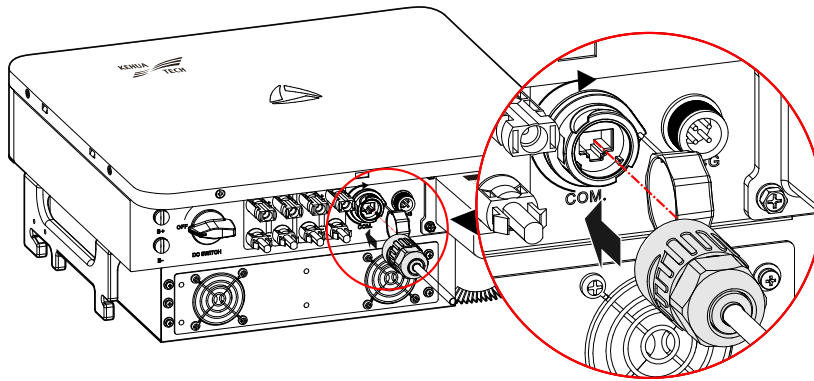

Figure3-32 Install the COM. interface
- Step 3 Loosen the waterproof cover on the COM. interface, insert the RJ45 connector to the COM. interface (as shown in Figure3-32) and fasten it.